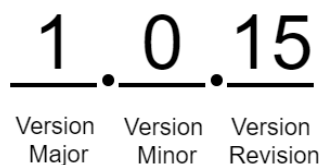

Figure 5-1: Example FW Version Format
- Bits 32 to 55 of the value contain the application revision numbers which define the FW version. The FW version is reported in the format as shown in Figure 5-1, which is shown using the example FW v1.0.15 (value 0x 01 00 0F).
- Bits 8 to 31 of the value contain the LoRaMAC version numbers. The format is the same as shown in Figure 5-1. This number is not to be confused with the LoRaWAN specification version according to the LoRa Alliance standards.